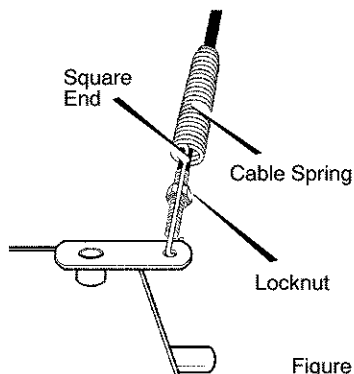

Figure 24
3. Push cable through spring to expose the threaded portion of the cable (see Figure 24).